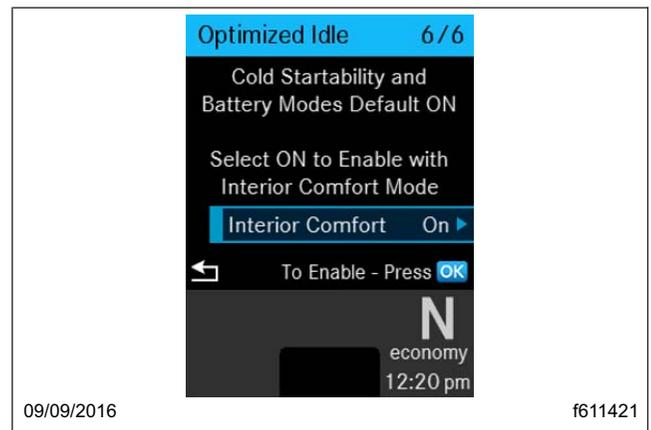

Fig. 13.3, Optimized Idle Mode Selection Screen
6. Press OK on the steering wheel switch pod to view the mode option screen. See Fig. 13.3.